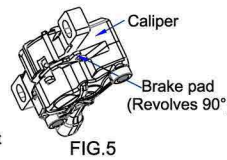

FIG.5
- 3-3 Rotating the pad 90 degrees and take it off (as shown in FIG.5&6)